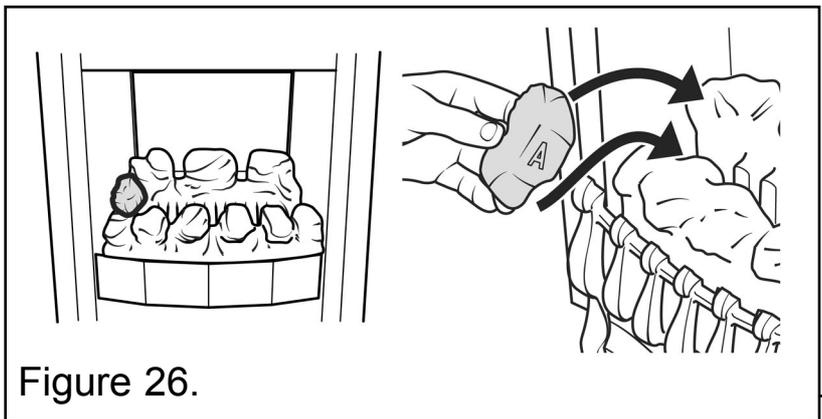

Figure 26.
3. Place a type “A” coal between the front and rear base coals with the letter “A” upright and so that the coal is against the left side of the firebox. See figure 26.